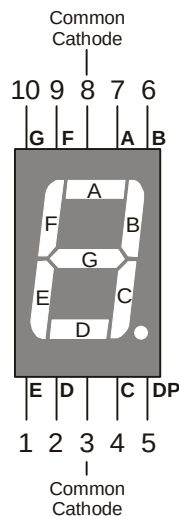
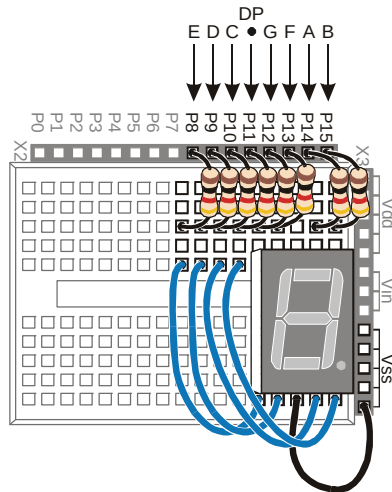

Figure 6-10
Figure 6-12
Figure 6-11 shows the schematic and Figure 6-12 shows the wiring diagram for this BASIC Stamp controlled 7-segment LED display example.
- ✓ Build the circuit shown in Figure 6-11 and Figure 6-12.
Schematic and pin map: If you are trying to build the circuit from the schematic in Figure 6-11 without relying on Figure 6-12, make sure to consult the 7-segment LED display's pin map, shown here again in Figure 6-10 for convenience.
Be careful with the resistors connected to P13 and P14. Look closely at the resistors connected to P13 and P14 in Figure 6-12. There is gap between these two resistors. The gap is shown because pin 8 on the 7-segment LED display is left unconnected. A resistor connects I/O pin P13 to 7-segment LED display pin 9. Another resistor connects P14 to 7-segment LED display pin 7.